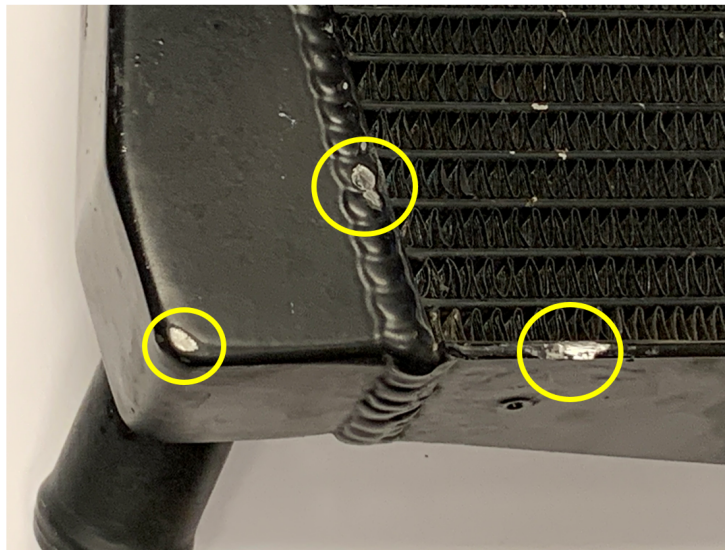
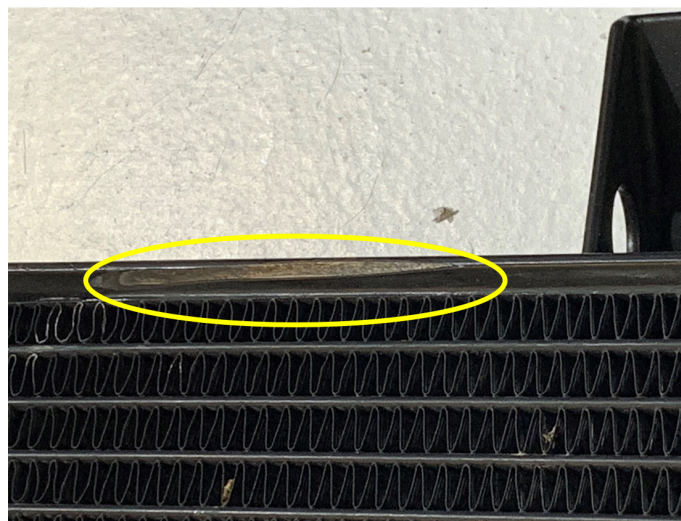

FIGURE 1: WEAR SPOTS
FIGURE 2: WEAR SPOTS
Step 1: Inspect radiator/cooler for proper 1/2 in. gap from any part of the lower cowling as shown in KAI 37iS/U Rev. 2 or later. Also verify lateral alignment of coolers as shown in KAI 50iS/U. Any interference of the flanges around the coolers with the cowling in service will greatly decrease the service life of the coolers. Examples are shown in Figure 1 and Figure 2.